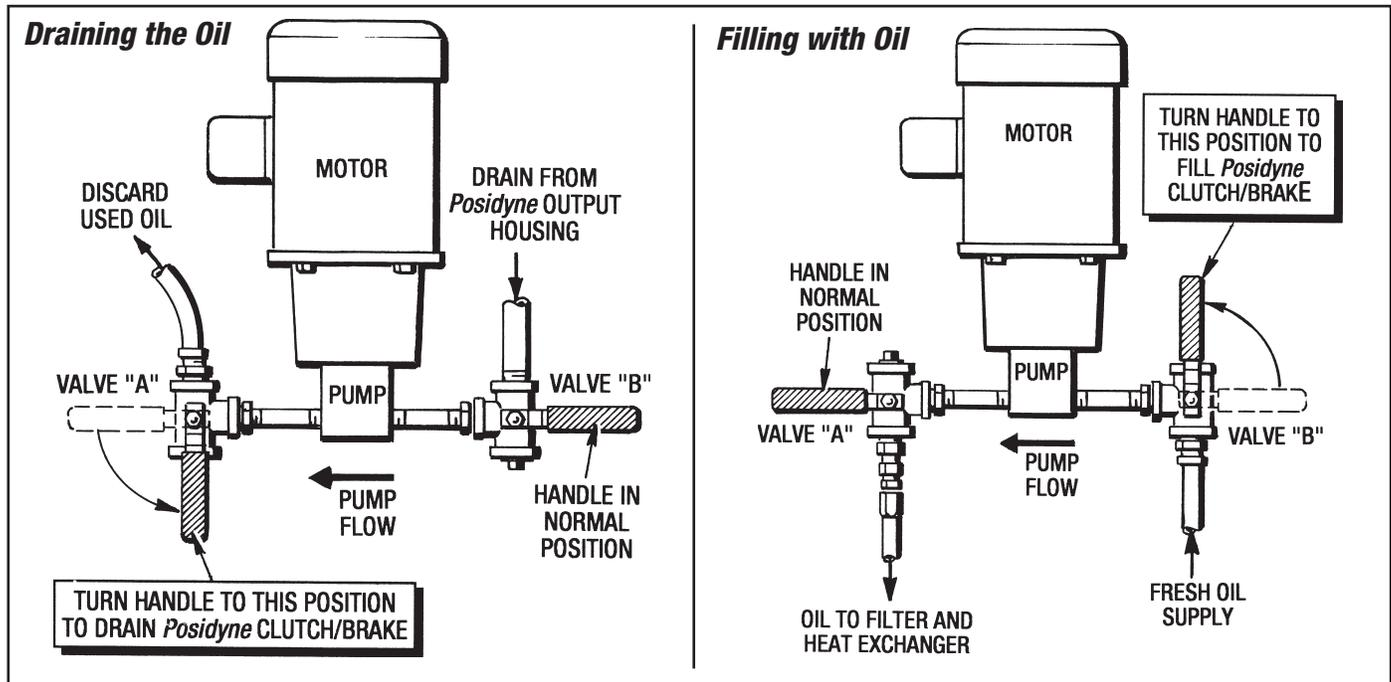

Figure 4.2 - Valve Positions for Draining and Filling Oil
(See Figures 4.2 and 10.11)
- Turn the handle on **Valve "A"** to **Drain Position** as shown in Figure 4.2. (**Valve "B"** should be in **Normal Position**.) Start
- Turn handle on **Valve "B"** to **Fill Position** as shown in Figure 4.2. Make sure that **Valve "A"** is in **Normal Position**.